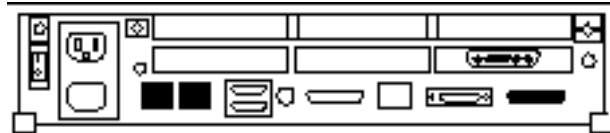

Figure 1-3 Rear View of the System
- Figure 1-3 shows the rear view of the system.